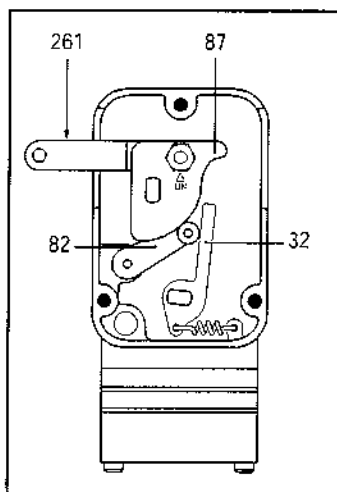

Figure A5 - Linear cam
- The rear lever (261) is always mounted on the left of the positioner when this one is seen from the rear (see figures A5 and A7).